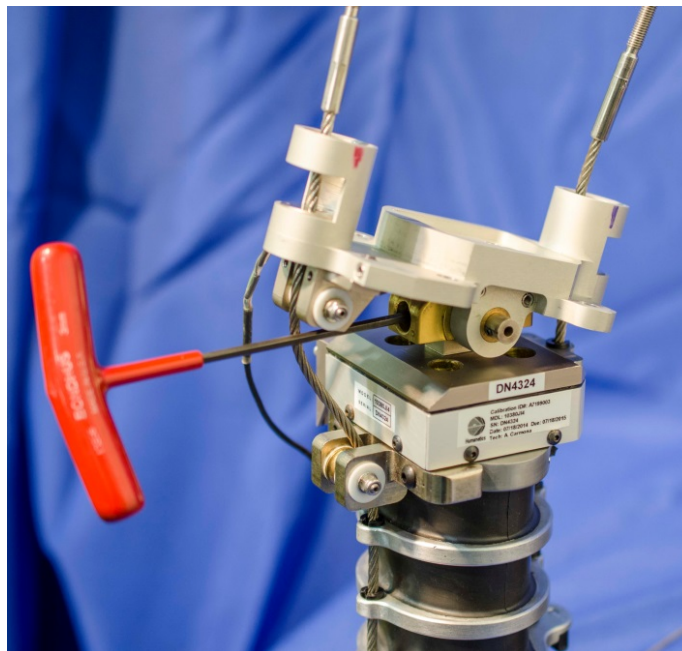
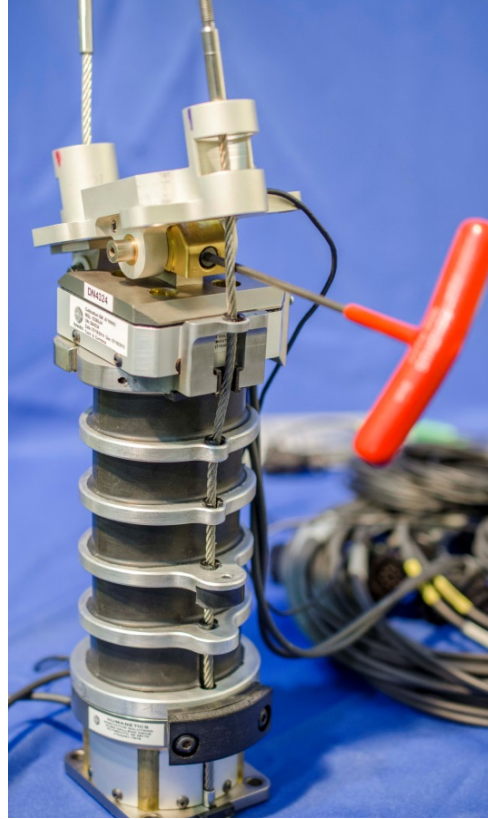

Figure 4-33. Tighten occipital condyle screw to secure O.C. cam in rear
Figure 4-34. Tighten screw to secure O.C. cam in front
- 4.2.2.22 Tighten the occipital condyle screw on the rear (Figure 4-33) and then the M4 x 0.7 x 8 SHCS on the front to secure the cam to the upper neck load cell (Figure 4-34).